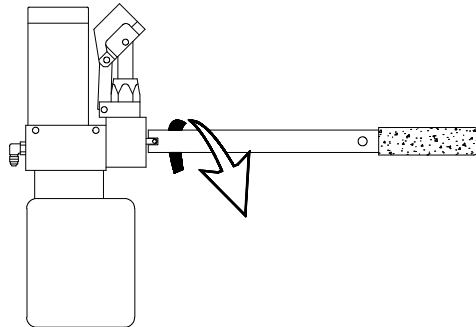

FIGURE 2-13: COUNTER-CLOCKWISE LOWERS PLATFORM
- 1) Refer to **Figure 2-13**. Engage hydraulic system pressure release valve with notched end of pump handle and slowly rotate it counter-clockwise. Do not open the valve any further once the platform begins to lower, and do not open it more than 1/4-turn.